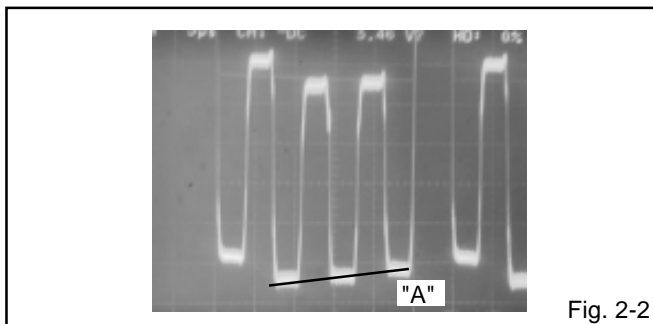

Fig. 2-2
4. Press the VOL. UP/DOWN button on the remote control until the section "A" becomes as straight line. (**Refer to Fig. 2-2**)